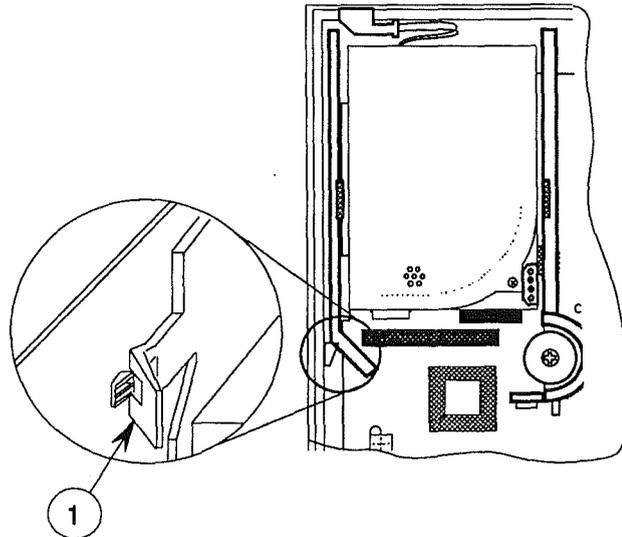

FIGURE 14
8. Unlatch the bracket (Figure 14, #1) along the side of the carrier unit, and at the same time pull the whole carrier toward the rear of the case about a half-inch. When this distance is reached, lift up on the carrier to remove it from the case.